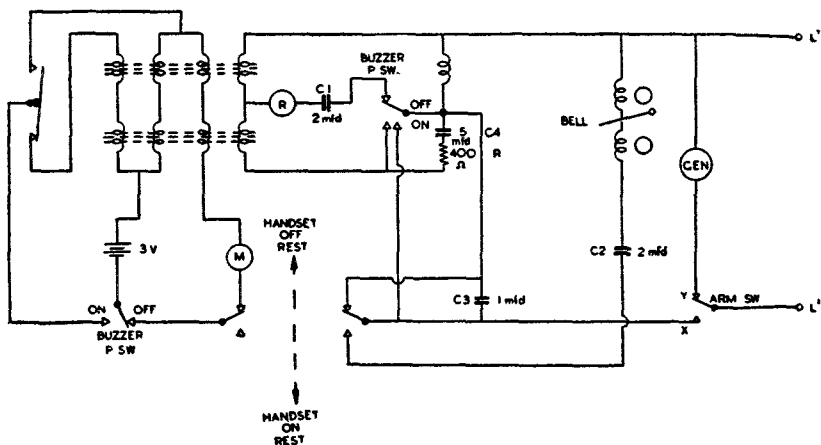

FIG. 3.—FIELD TELEPHONE TYPE F
- (i) *The hand magneto generator.* Consists of a laminated "H" type armature, having a single winding of D.S.C. copper wire (40 s.w.g.) of about 500 ohms. 185 r.p.m. by hand will produce 70 volts A.C. at 17 c.p.s. to operate the distant bell. A switch is provided, which is automatically operated by the handle, connecting the output from the generator directly across the lines (*see* fig. 3).
6. Circuit Details (fig. 3)